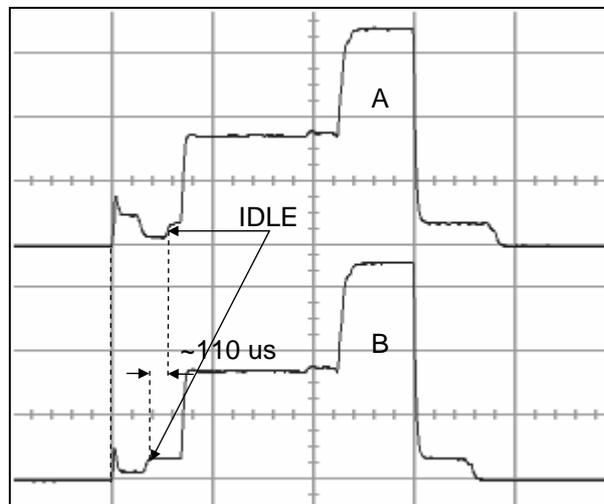

Figure 9. `MCSM0.XOSC_FORCE_ON = 1`
It is possible to keep the crystal on during SLEEP mode (`MCSM0.XOSC_FORCE_ON = 1`) to be able to reduce t_{Event1} , but this will cause the current consumption in SLEEP mode to increase significantly (see [1], [2], [3], and [4]). Figure 9 shows the current consumption when the crystal is turned off in SLEEP mode (A) and when the crystal is kept on (B). It is not possible to observe the difference in SLEEP current due to the resolution of the y-axis, but in the case where the crystal is running, one can see that the chip is ready and in IDLE mode about 110 μ s earlier than what is the case if the crystal oscillator has been turned off. In the case where the crystal oscillator is running in SLEEP mode, it can be seen that the radio returns to SLEEP earlier than what is the case when XOSC is turned off. This is due to the fact that the calibration of the RC oscillator (see 3.2.3) starts earlier and thus finishes of sooner.